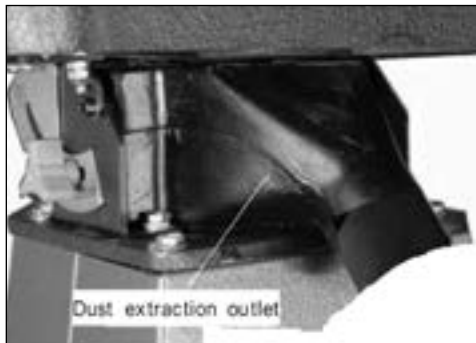

Fig. 14
7.6 Dust Extraction (Fig.14)
- The sander is fitted with a 50mm diameter dust extraction outlet port (5) located on the rear of the sander. Attach a suitable extractor/dust collector device to the port.